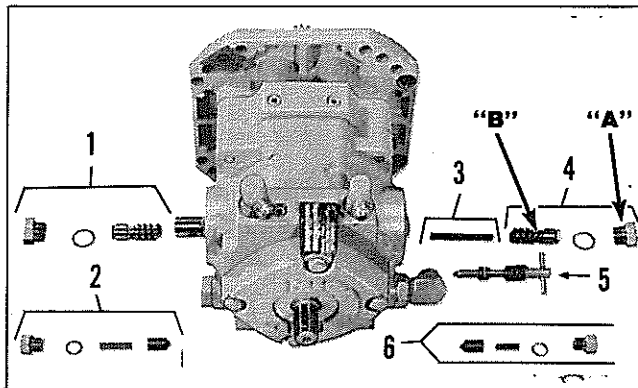

FIGURE 3-3
Hydrostatic valves which can be checked, repaired, or replaced with unit remaining in the tractor are identified in Fig. 3-3.
Right side of hydrostatic shows location of the charge pump relief valve assembly and the reverse acceleration valve. See Fig. 3-3.
To check the acceleration valve the cap "A", Fig. 3-3 can be turned out of the body "B." The spring and ball can then be removed and inspected for dirt which could cause erratic shifting of the hydrostatic.
- C. The charge pump relief valve (fig. 3-3) may be inoperative. Check the spring tension and valve seating. Replace the spring and valve if necessary.
- B. The implement relief valve (fig. 3-3) may be inoperative. Check the spring tension and valve seating. Replace the spring and valve if necessary.